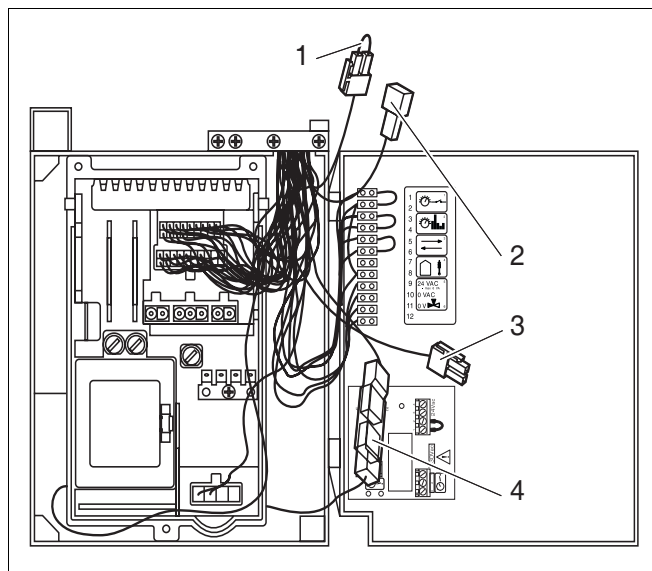

Fig. 23 Other connections
- Remove bridge (fig. 23, item 1).
- Connect switch unit for a second solenoid valve (accessory) at green plug (fig. 23, item 2).
- Connect modulating pump (accessory) at plug (fig. 23, item 3).
- Open plug (fig. 23, item 4) connection.